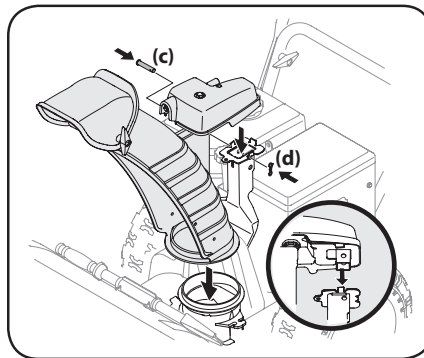

Figure 2-16
2. Place chute assembly onto chute base and secure chute control head to chute support bracket with clevis pin (c) and cotter pin (d) removed in Step 1. See Figure 2-16.